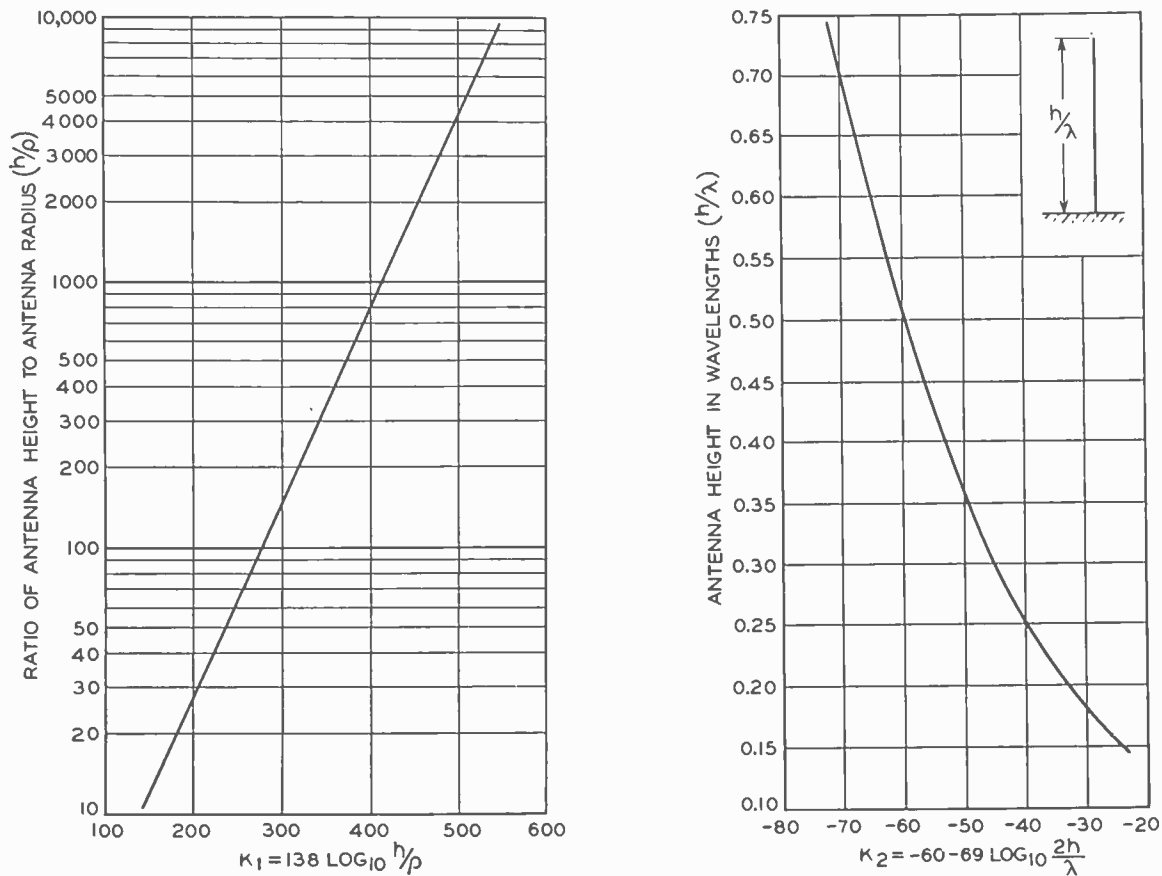

Fig. 4—Characteristic impedance of vertical antennas
Equation (9) holds to a close approximation for conductors less than one wavelength long and it is of interest to note that  $Z_0$  is a function of the ratio,  $h/\rho$ , and there is also a correction factor for the operating wavelength. This equation has been plotted and is shown in figure 4.